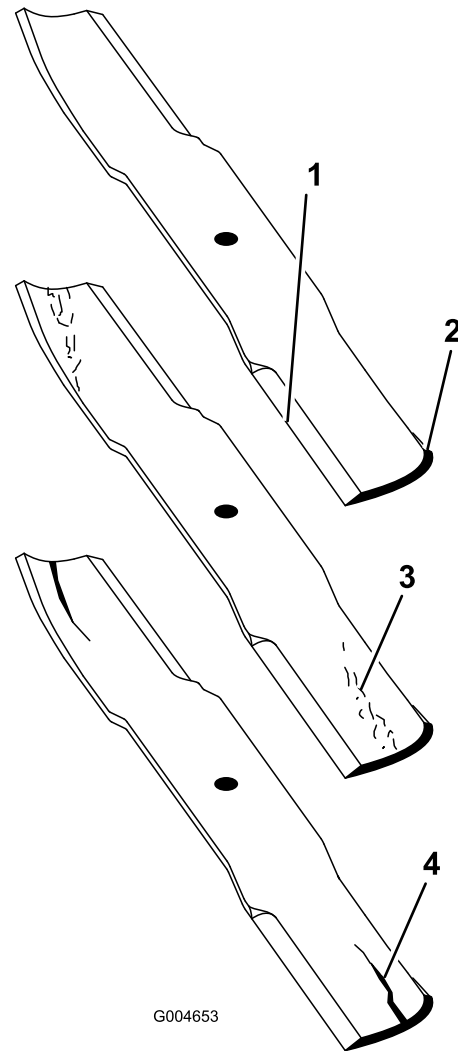

Figure 110
2. Examine the cutting ends of the blade carefully, especially where the flat and curved parts of the blade meet (Figure 110). Since sand and abrasive material can wear away the metal that connects the flat and curved parts of the blade, check the blade before using the mower. If wear is noticed (Figure 110), replace the blade.